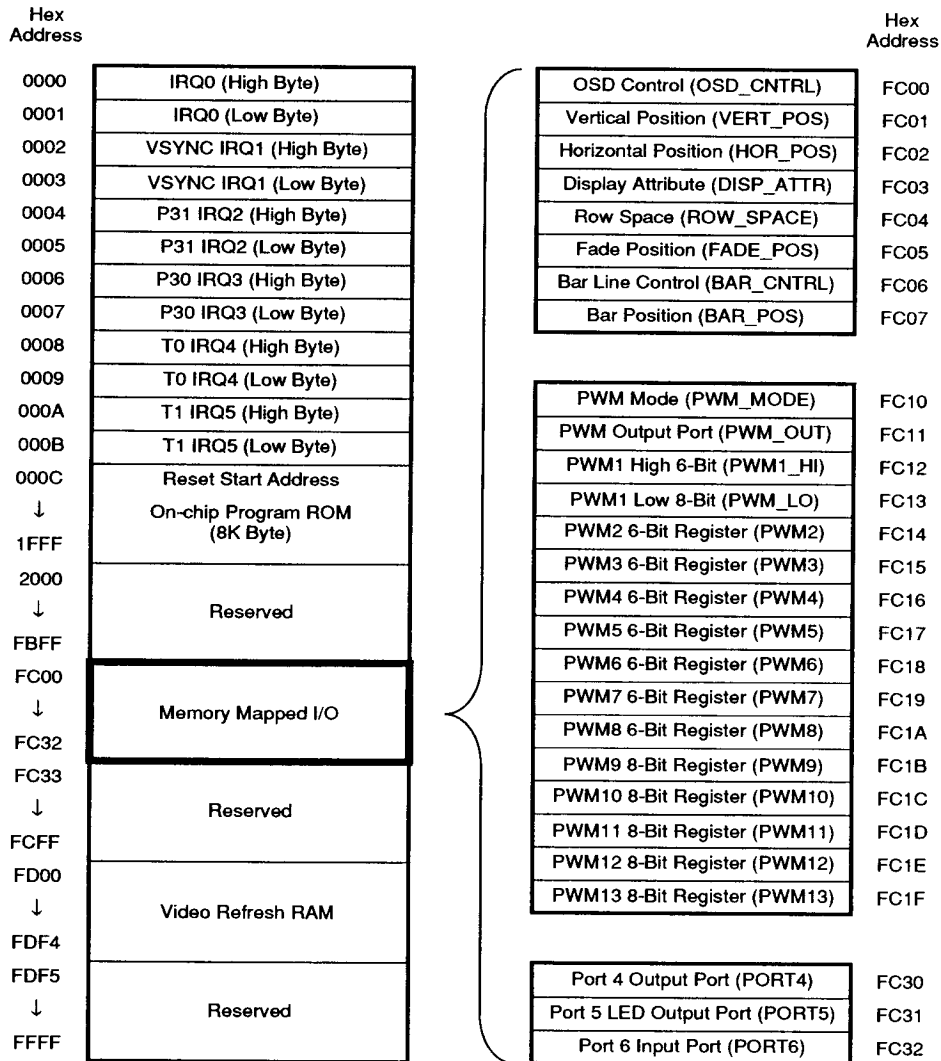

Figure 15. Program Memory
**Program Memory.** The program ROM size is 8K bytes (Figure 15). The IRQ vector table is located in the lower address space. The vector address is fetched after the corresponding interrupt and program control is passed to